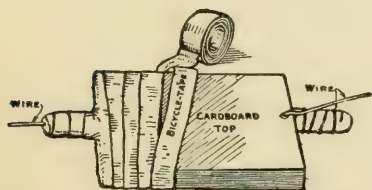
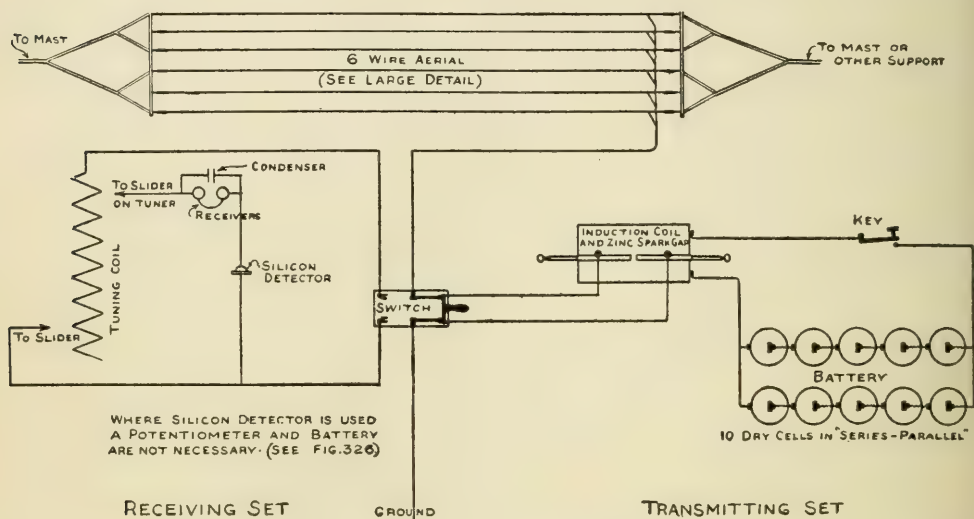
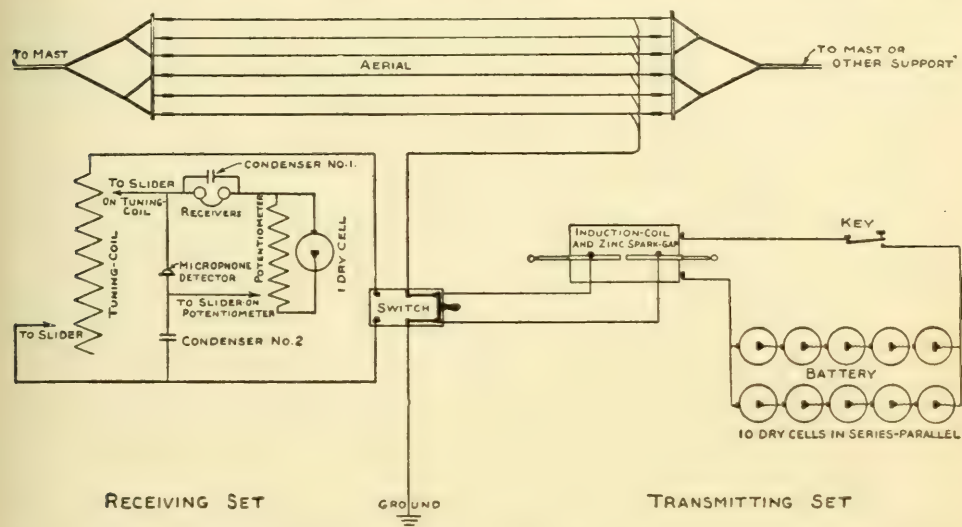

FIG. 323. — The Fixed Condenser is completed by covering it as above with Bicycle Tape. (See Figs. 325 and 326.)
FIG. 325. — Complete Wiring Plan — when a Silicon Detector is used.
FIG. 326. — Complete Wiring Plan — when a Microphone Detector is used.
A wire should extend from the switch of the instruments to the *ground* wire (Fig. 325).
Instead of removing the aërial wire from the instruments after use, and connecting it to the *ground* wire, a handier scheme is to get a *double-throw, single-pole knife switch* and connect it between the aërial and the *double-throw, double-pole knife switch* shown in Figs. 325 and 331. This switch has three connections instead of the six on the *double-throw, double-pole switch*, and the aërial is connected at the center, the ground at one end, and the wire from the aërial connection on the switch shown in Fig. 325 to the other end.
(See Fig. 326.)
phone detector is used, a second condenser must be wired up in connection with it as shown in the wiring diagram (Fig. 326).
around them as shown on the right end in Fig. 323. By running the wires through the cardboard as directed, whatever strain is brought to bear upon the terminal wires will come upon the cardboard and not the delicate tin-foil. With the terminal wires
in place wrap the entire condenser with tire tape, beginning at one end as shown in Fig. 323, and lapping each turn partly over the previous turn. One of these condensers should be connected directly across the telephone receivers as shown in Figs. 325 and 326, and when a
microphone detector is used, a second condenser should be set in between the detector and the switch (Fig. 326).
This completes the receiving instruments. They should be arranged upon a board or table in some such manner as shown in Fig. 300 and wired up as shown in Fig. 325 or Fig. 326, according to which form of detector is used. With either receiving set you should be able to hear commercial companies for a distance of a hundred miles, with the proper aerial, and all amateur stations in your vicinity. The arrangement of the instruments is discussed upon page 248.
**Dry Batteries**, or *dry cells*, can also be obtained from a garage, where they are discarded when too weak to spark an automobile; these are still plenty good enough for the "wireless" coil. The 1-inch coil will require five dry cells, but if another five can be obtained, they should also be used. Instead of connecting all ten in *series*, that is, connecting the carbon of each to the zinc of the one next to it (Fig. 333), connect each five in series and then connect the end cells in *parallel*, or *multiple*; that is, connect the carbons of one pair of end cells and the zincs of the other pair of end cells (Figs. 325 and 333). This form of connection is known as *series-parallel*. When all the zincs are joined together, also all the carbons, the connection is called *parallel*, or *multiple* (Fig. 333). If five cells are used in a series and you wish to add more cells, you must add another complete set of five, as *there must be the same number of cells in each series*.
**The Knife Switch** shown in Fig. 331, known as a *double-throw, double-pole knife switch*. This will cost between 30 and 50 cents, according to where purchased. The connections are marked upon the illustration of the switch and are also shown upon the wiring diagrams (Figs. 325 and 326).